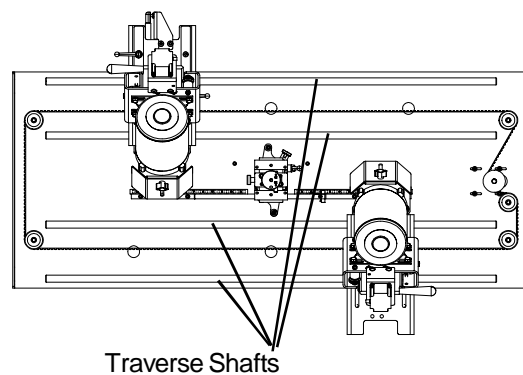

FIG. 6
STEP 2--Flood spray the four shafts with a spray lubricant (**Do not use teflon based lubricant**) until the lubricant is dripping off the shafts. See FIG. 6 Then run the carriage back and forth through its full range of travel. This will carry the lubricant into the bearings.